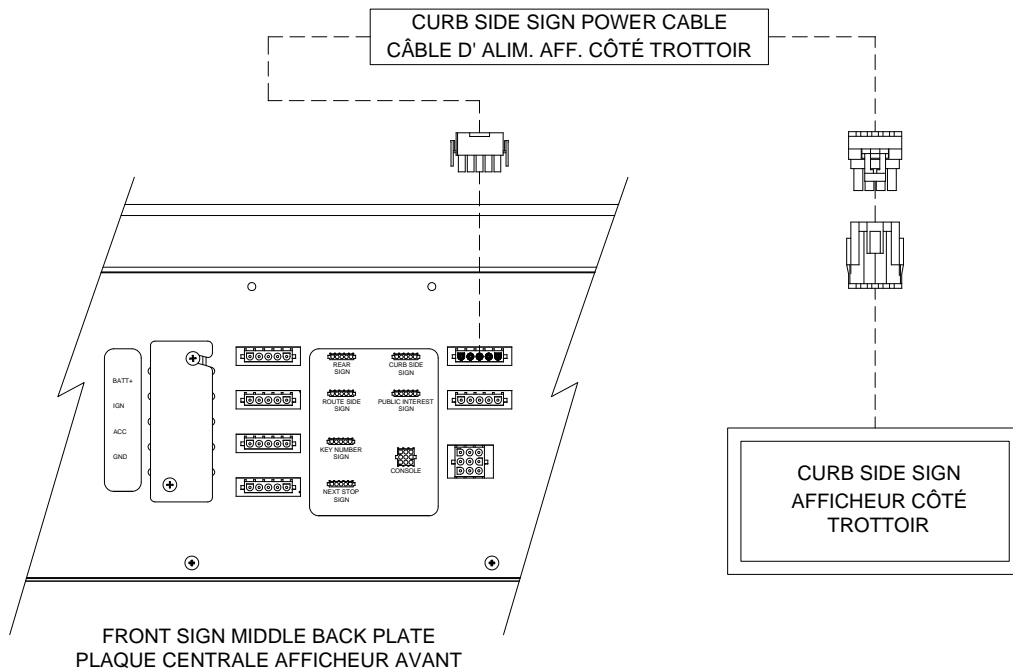

Figure 7: Curb Side Sign Cable Connection
- Connect one end of the power cable (6-pin connector) to the **CURB SIDE SIGN** connector (6-pin connector) located on the side plate of the Front Destination Sign. (See Figure 7)